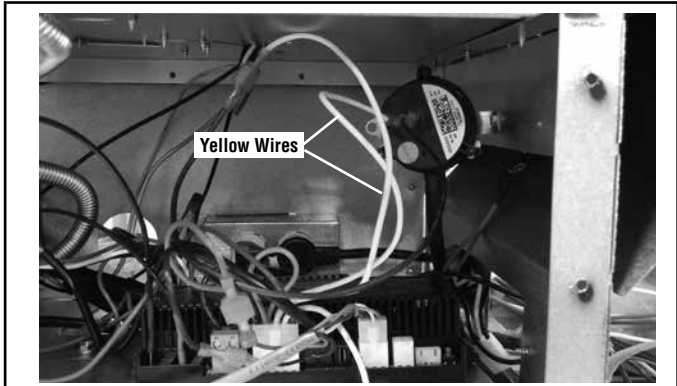

Figure 27 - Pressure Switch Installed
7. At the control module Disconnect the 2 joined yellow DFC harness wires (male and female connector). Connect the yellow wire with the female connector to the provided pressure switch. Join the yellow wire with the male terminal to the provided Black wire (this wire will have female connectors at each end) and connect to the pressure switch (see **Figure 27** for visual).